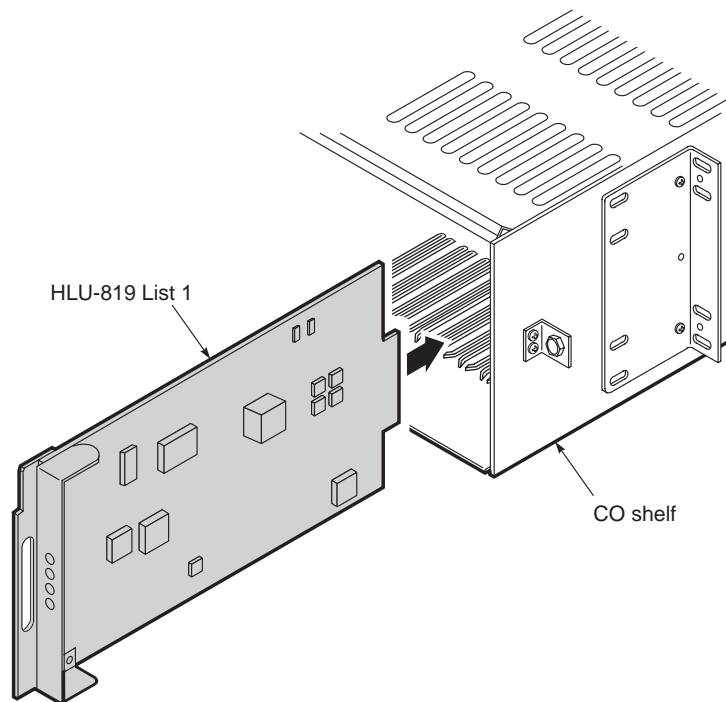

Figure 4. *Installing the HLU-819 List 1 into a Shelf*
- 1 Slide the HLU-819 into the slot enclosure guides of any of the open 28 slots on the shelf (Figure 4).